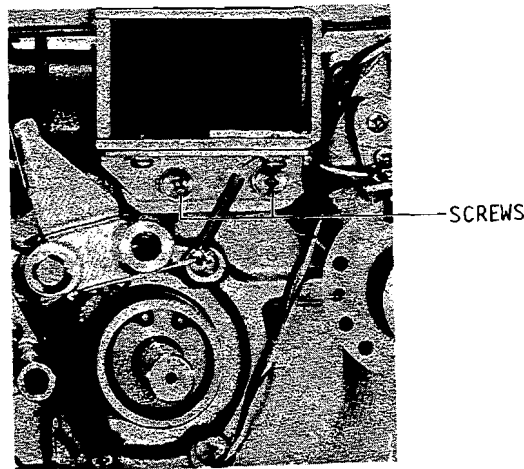

Fig. 8-3
- 5) If the reading is off specification, loosen the 2 screws, Figure 8-3, and reposition the plunger solenoid. As pressure will change greatly with only a slight shift in position, reposition the solenoid in small increments. Shifting the solenoid in the direction of the arrow will increase the pressure.